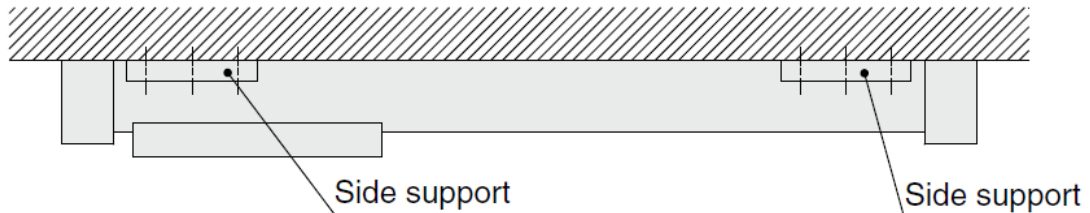

Fig. 3
- If the cylinder is mounted on the ceiling or wall, use side supports, in addition to the fixing bolts on the head cover, to support both ends of the cylinder tube. (See Fig. 3)